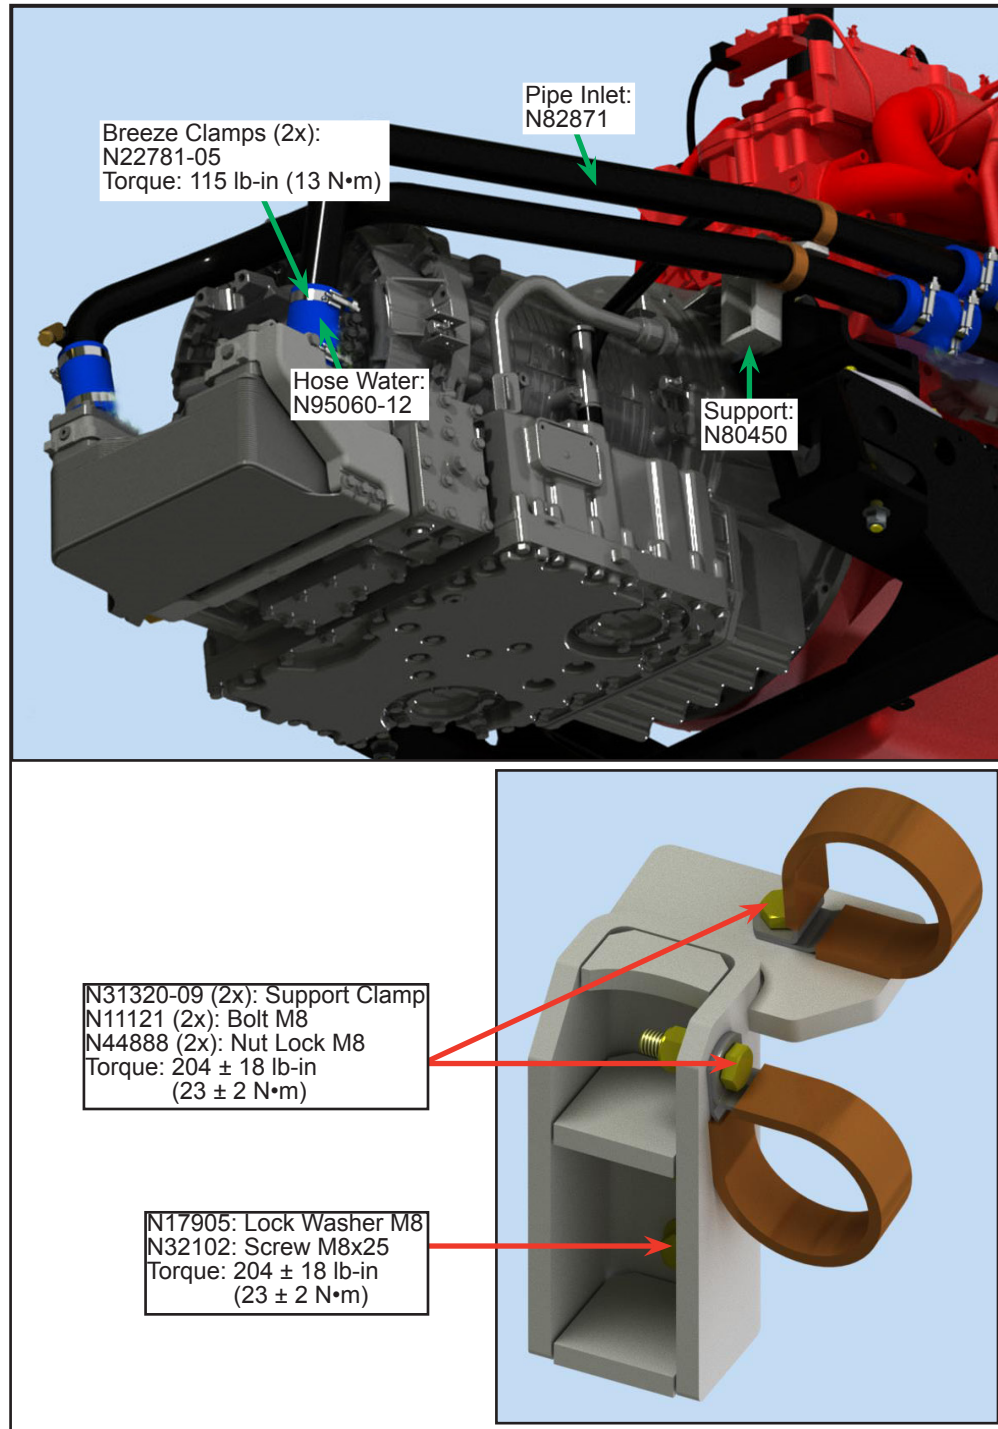

Figure 8 - Typical View of Transmission Cooling Pipes and its Accessories
- 1.14. Install the new support (N80450) with screws (N32102) and lock washers (N17905) (see Figure 8).
- 1.15. Install the hoses (N95060-12) with breeze clamps onto the cooling pipe line (N82871) and secure the lines to the support with the new clamps (N31320-09) and tighten them using locknuts (N44888) and screws (N11121). Tighten to specified torque (see Figure 8).